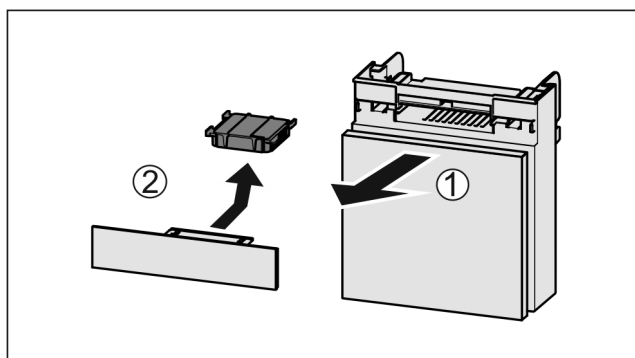

Fig. 149
- ▶ Pull out the compartment Fig. 149 (1).
- ▶ Remove the carbon filter Fig. 149 (2).